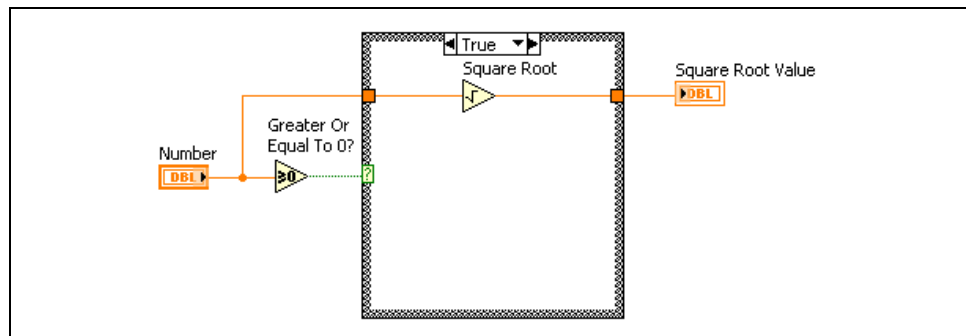

Figure 3-44. True case of Square Root VI
- Wire the function as shown in Figure 3-44.